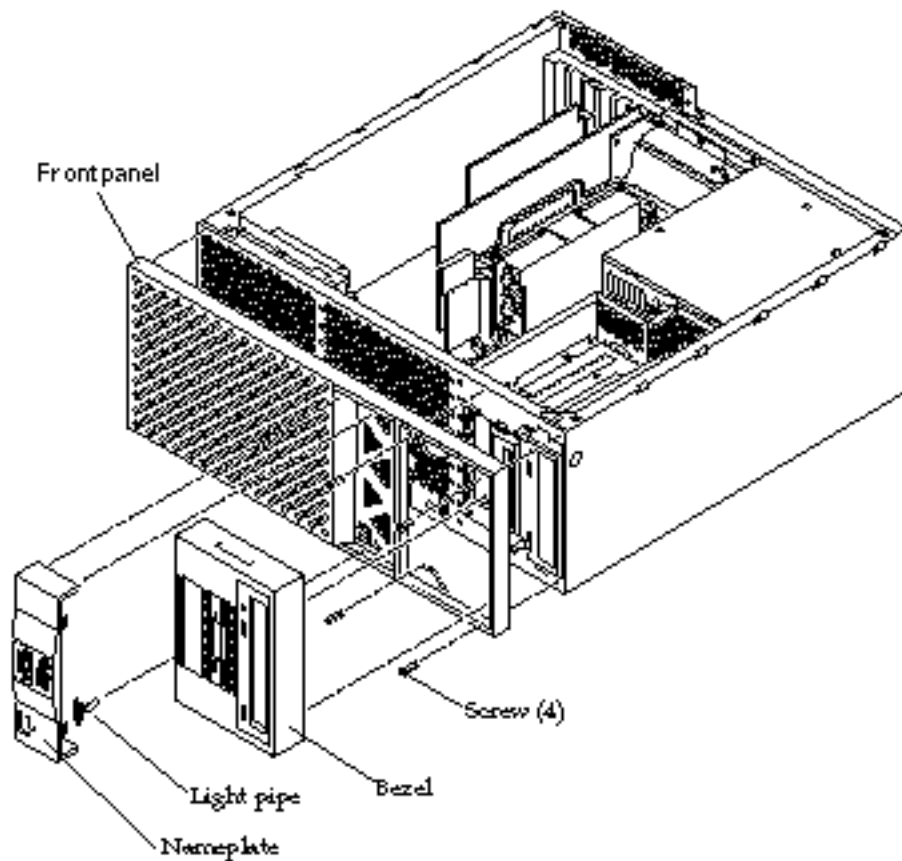

Figure 1-11 Removing and Replacing the Front Panel
11. Remove the front panel (Figure 1-11):
2. Replace the front panel (Figure 1-11):